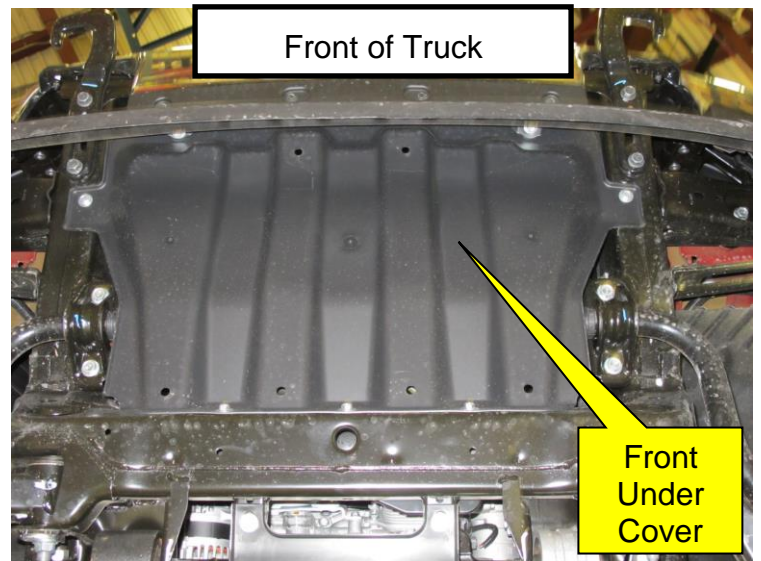

Figure 2
3. Locate the front under cover (Figure 2).